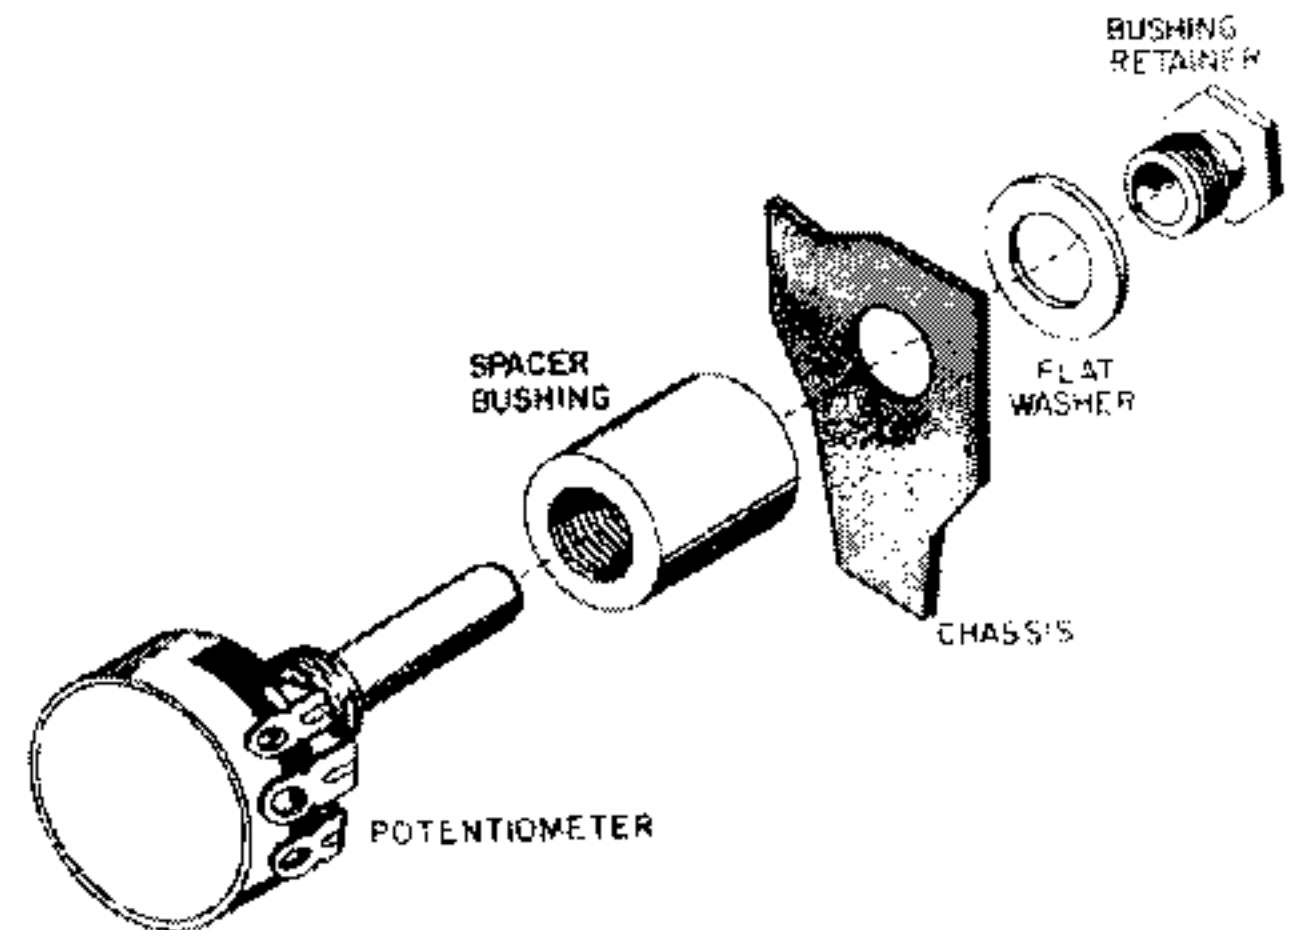

FIGURE 5. MOUNTING THE POTENTIOMETER
- Note that R-5, the 500Ω potentiometer, has three *dummy* terminals marked with *color dots*. Mount R-5 following the assembly details shown in Figure 5. Position the dummy terminals so that they face the three pin jacks.